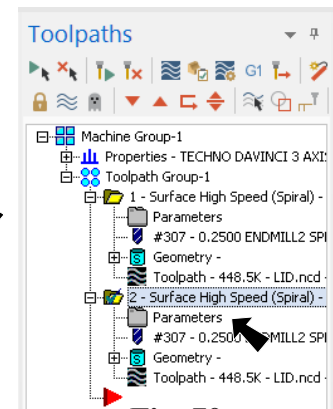

Fig. 70
Then, use **Ctrl-C** and **Ctrl-V**, **Fig. 70**.
Step 2. Expand copied Surface High Speed Spiral toolpath and click **Parameters**, **Fig. 70**.